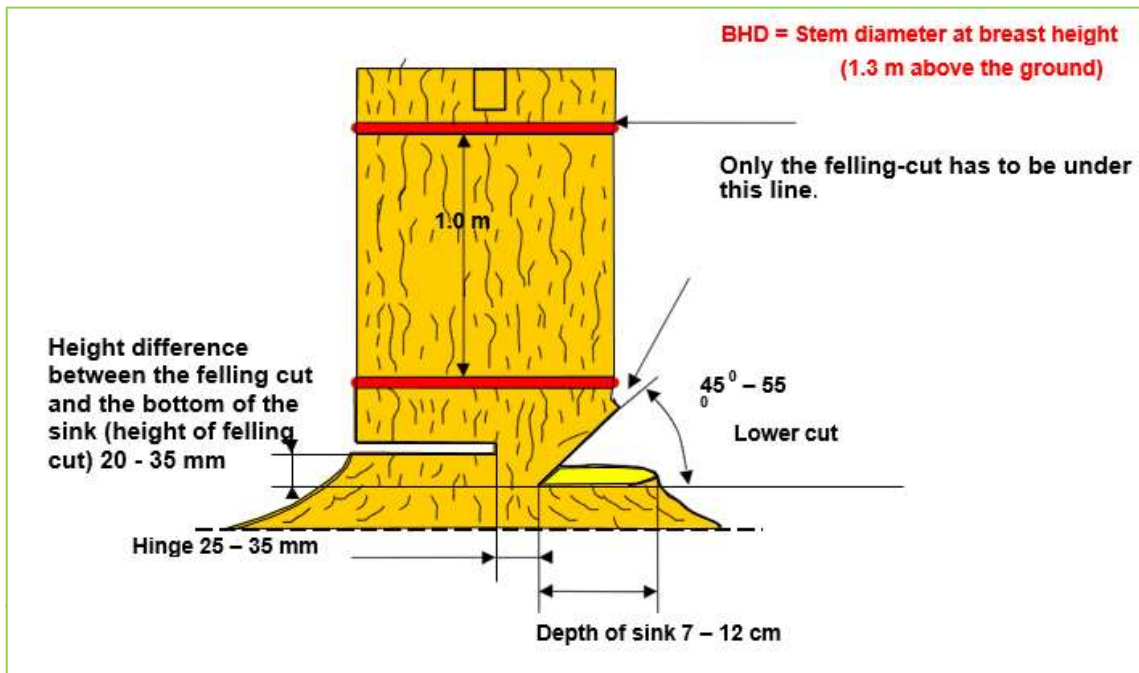

Figure 9: Measurements and markings for option 1 real tree felling
- Marking a line on the trunk above which no horizontal cut may be made (see figure 9);